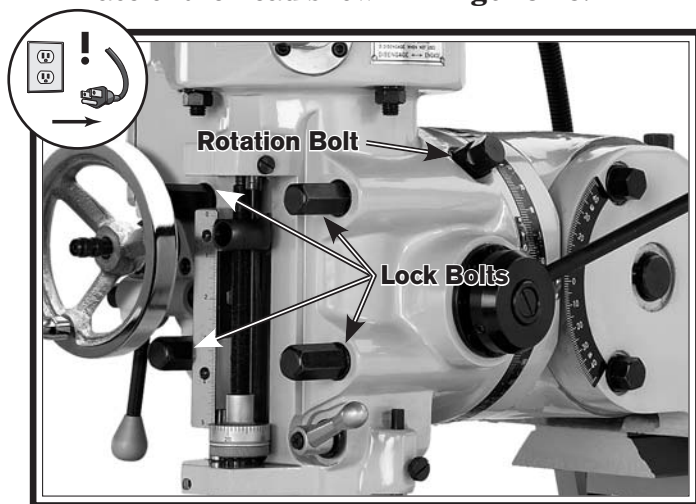

Figure 26. Head rotating controls.
2. Loosen the four rotation lock bolts on the face of the head shown in **Figure 26**.